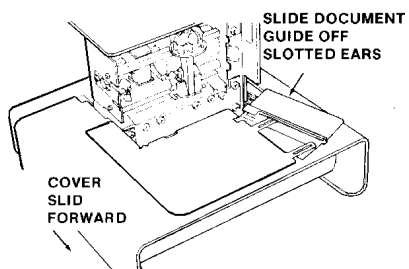

Figure 15. Document Guide Removal.
- 6.1.6 Slide cover assembly forward about 1 inch, and slide the document guide off slotted ears on the cover assembly (See Figure 15).